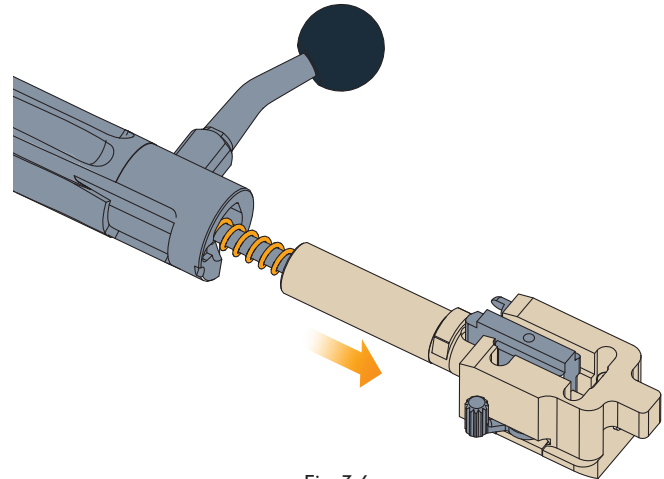

Fig 3-6
- Remove the shroud assembly from the bolt (Fig 3-6).